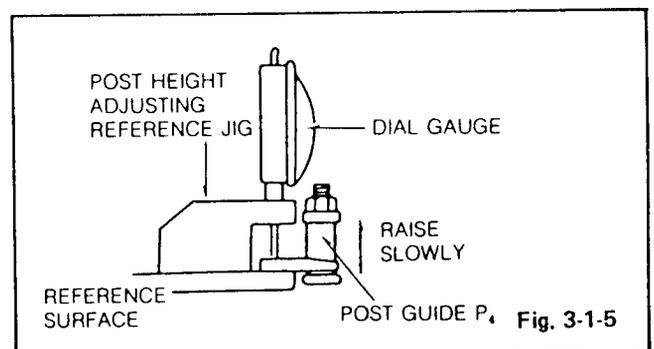

Fig. 3-1-5
- Raise slowly with the nut driver (as shown in Fig. 3-1-5) with the reference surface of the post height adjusting JIG.
- The reference surface of the post height adjusting JIG is to be in complete contact with each guide (P1-P4) surface, as shown in Fig. 3-1-5.
- Adjust the take up guide with the nut driver $\phi 5.5$ so that the lower take up guide and the contact gauge of post height adjusting JIG A, B may be made in line as shown Fig. 3-1-5.